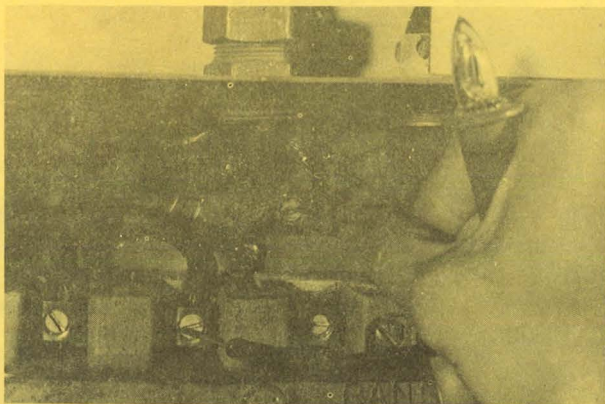

Figure 4
3. Put one terminal of the test light on the screw at the end of an insulated wire and the other terminal on the screw at the end of the ground wire (Fig. 4). If the test light glows, power is coming into the house through that power wire. Then try a terminal on the screw at the end of the other power wire, keeping one terminal always on the screw at the end of the ground wire. If the test light glows, electricity is coming through this wire, too. If power is not coming through one or both of these wires, call the electric power company to restore service.